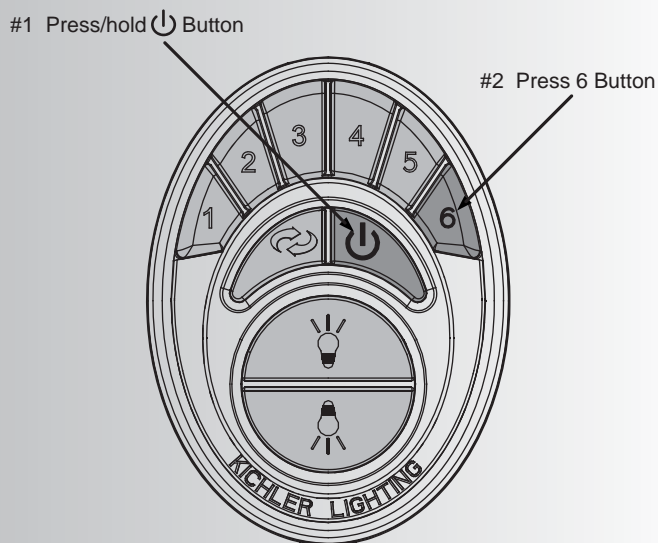

Fig. 22
4. Turn the power on, press and hold the [Power Button] until the ceiling fan light blinks twice (Figure 22)
6. After the ceiling fan light blinks twice, press and release the High Speed (6) Button. Let the ceiling fan run for a minimum of 90 seconds (1 ½ minutes). The control system will do another self check, initialize all operational functions and complete the programming process (Figure 22).